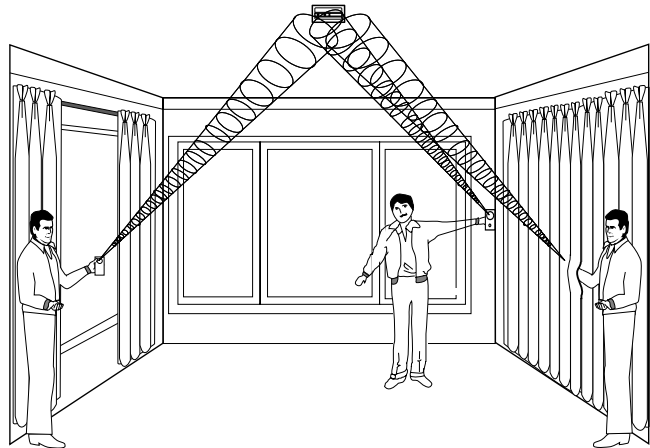

Figure 5. Testing the ShatterPro
3. Holding the tester near the surface of the glass and behind any closed drapes or blinds, aim the tester at the ShatterPro and hold down the test button (see Figure 5).